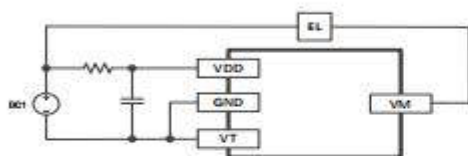

Figure6-3
- According to the figure6-3, connect the DC1 power supply to the B + and GND pins of the system board and set the voltage to about 3.0V/3.6V/4.2V. Connect the electronic load from B + to VM and observe the waveform.